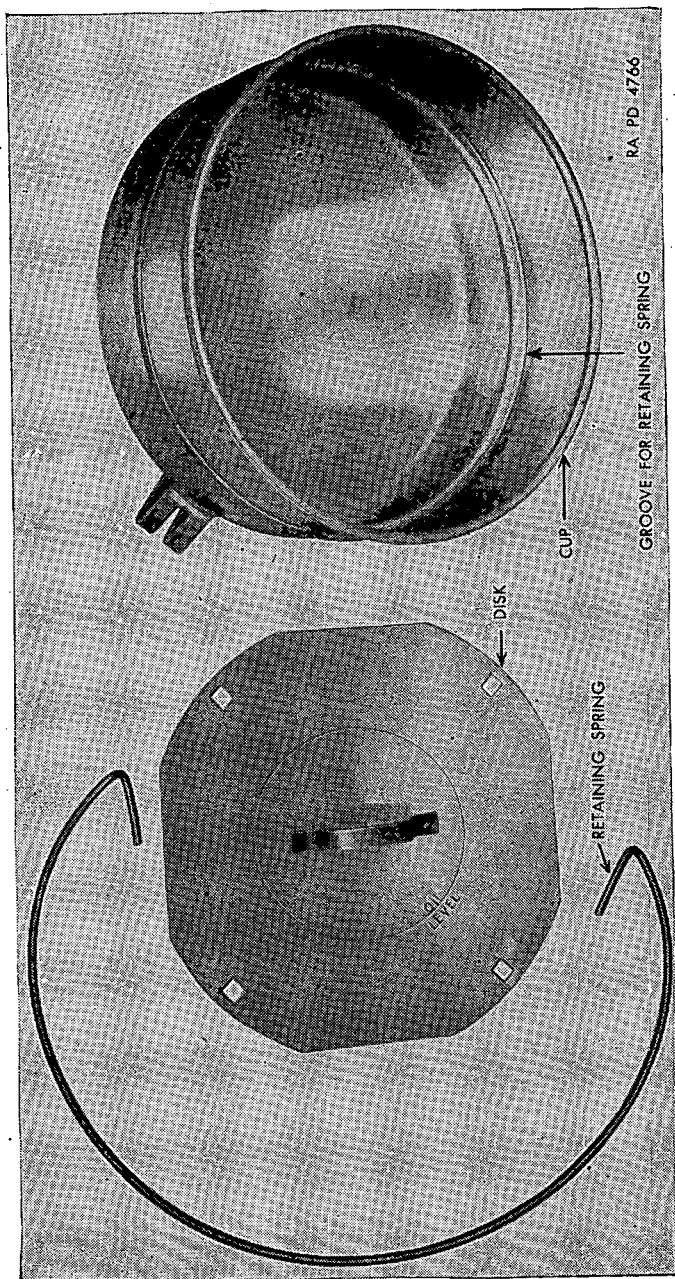

FIGURE 30.—Air cleaner parts requiring cleaning.
(4) Install throttle lever	Wrench, $\frac{1}{2}$ in., O. E. Pliers.	Place lever on carburetor throttle shaft, making certain that serrations slip into the same position as on removal. Install $\frac{3}{16}$ -in. hex-hd. nut and cotter pin.
(5) Connect fuel lines	Wrenches, $\frac{1}{2}$ in., $\frac{3}{16}$ in., $\frac{11}{16}$ in., $\frac{3}{4}$ in., O. E.	Connect fuel lines to carburetor.
(6) Install rocker arm oil scavenger line clamp.	Wrench, $\frac{3}{16}$ in., O. E.	Install $\frac{3}{16}$ -in. hex-hd. nuts on stud of carburetor holding oil line clamp.
(7) Install carburetor air horn.		See engine installation, par. 60b (14).
(8) Install inspection plate in floor of engine compartment.		See engine installation, par. 60b (15).
(9) Open fuel valves at tanks.
(10) Check all lines for leaks.
(11) Adjust carburetor		See b above for carburetor adjustment.
b. Maintenance.—After each 25-hour period of normal use, or daily, when conditions are extremely dusty, the air cleaner will be serviced as follows (fig. 30) :
- (1) Loosen thumbscrews on cup retaining rods and remove cup.
- (2) Remove cup disk and retaining spring (fig. 30).
- (3) Empty oil and dirt and thoroughly clean cup, disk, and spring (fig. 30).
- (4) Carefully fill to oil level line with SAE 10 oil and replace cup disk and retaining spring.
- (5) Replace cup in cleaner and tighten retaining rod nuts.
c. Replacement.—(1) Loosen air cleaner outlet hose clamps and hose.